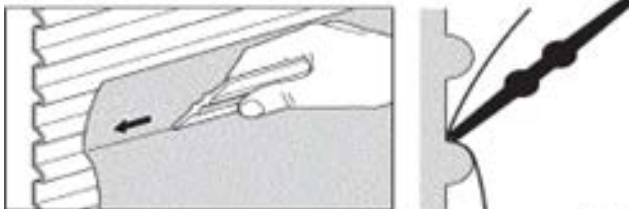

Figure 2. Bead the upper valley.
3. Use the edge of the squeegee to bead the upper valley. See Figure 2.